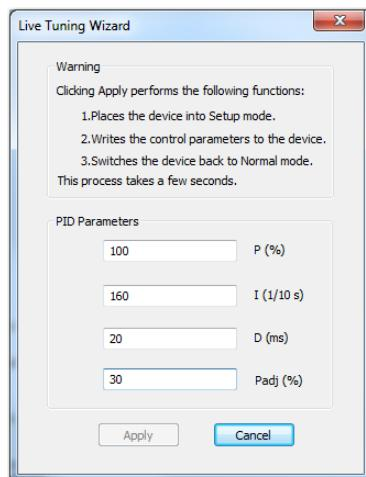

Figure 63 Live Tuning Wizard
Live Tuning button	Live Tuning click and Figure 63 appears.
1. Click **Live Tuning** and Figure 63 appears.